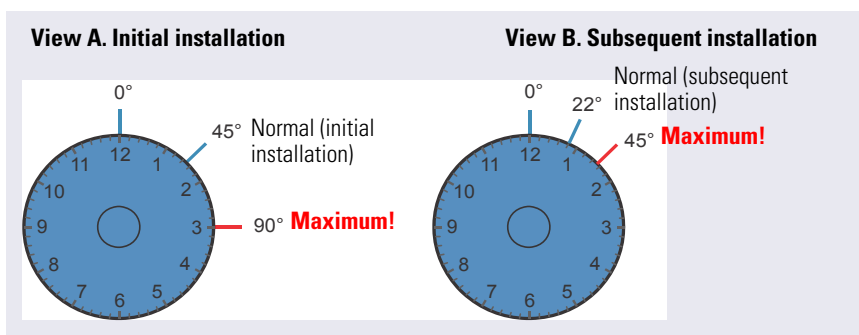

Figure 1-2. IC PEEK Viper Fitting Installation
- For the initial installation of the fitting: Use your fingers to tighten the bolt one-eighth of a turn from the “0” mark (45° or between 1 and 2 on a clock face) (see Figure 1-2, View A).
- For subsequent installations: Use your fingers to tighten the bolt one-sixteenth of a turn from the “0” mark (22° or 4 minutes past 12 on a clock face) (see Figure 1-2, View B).